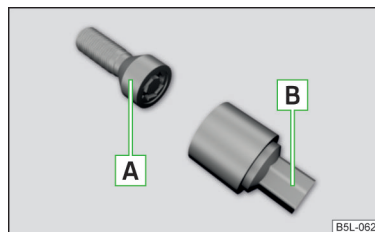

Fig. 244
The anti-theft wheel bolts protect the wheels from theft. These can only be loosened or tightened with the use of adapter [B] » Fig. 244.
- › Insert adapter [B] » Fig. 244 with the toothed side all the way into the inner teeth in the head of the anti-theft wheel bolts [A].